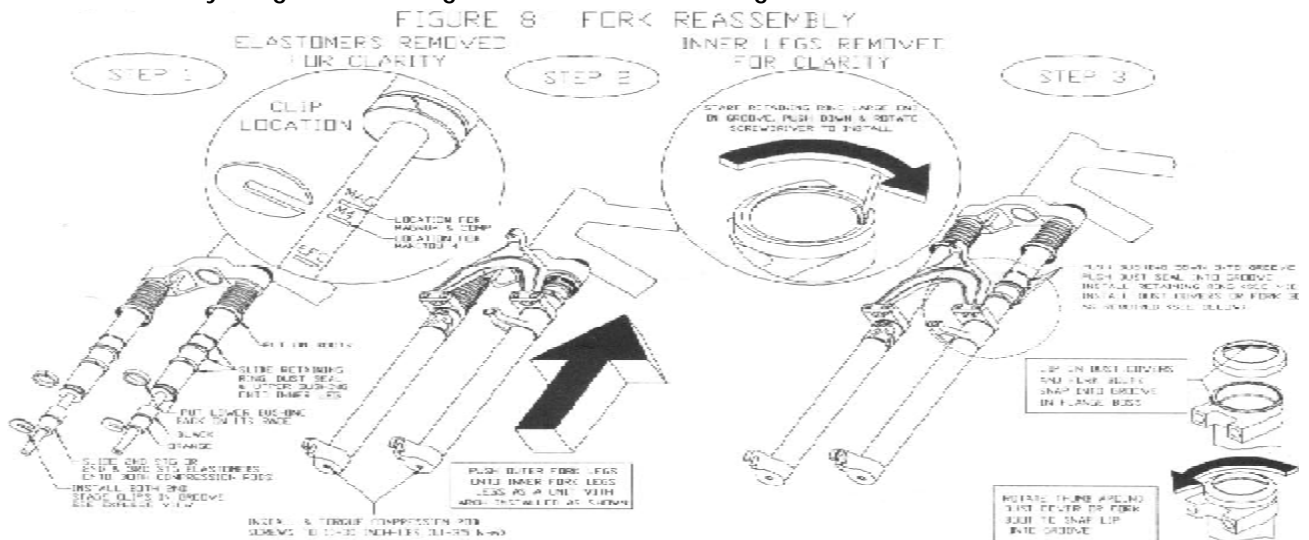

Figure 1
4. Use a small screwdriver to remove retaining ring.(Figure 1)
11. Install positive bottom clip in the Mag groove only.(Figure 1)